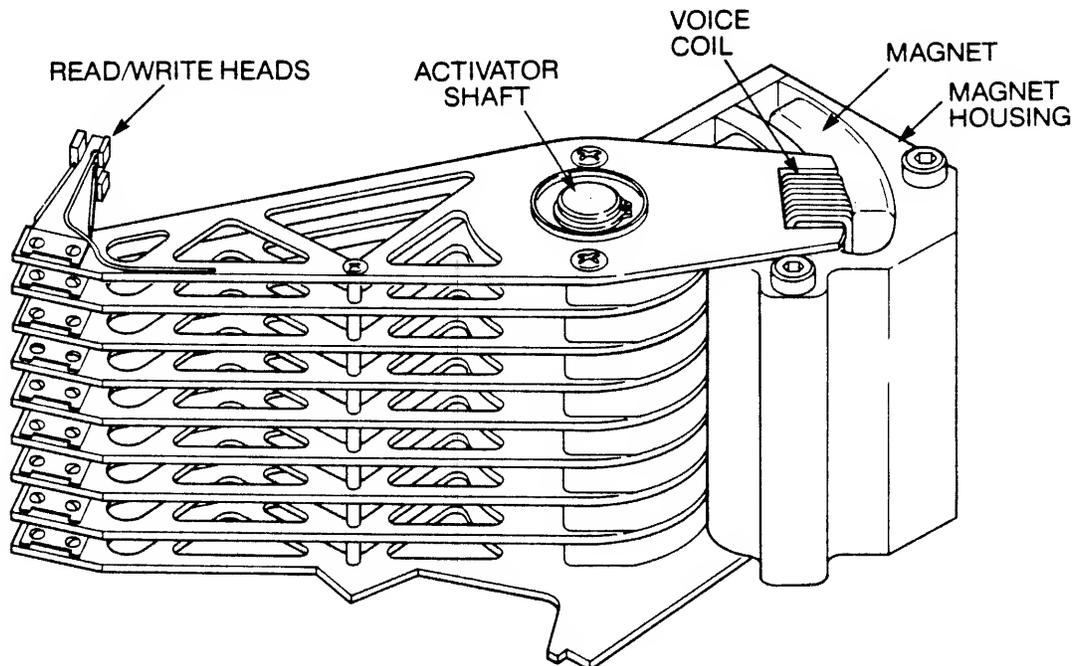

Figure 2
2.5 Positioning Mechanism (Figure 2)